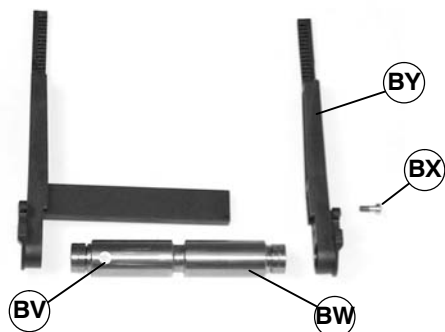

Figure 45
NOTE: Note on which side of conveyor magnet (BV of Figure 45) is located.
6. Locate magnet (BV of Figure 45) on spindle and bearing assembly (BW).
NOTE: Install magnet (BV of Figure 45) end of spindle and bearing assembly (BW) at same location as noted during removal.